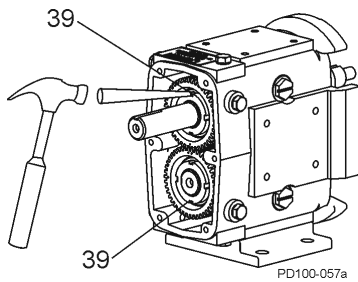

Figure 61 - Bend Lock Tab on Lock washers
7. Bend the locking tab on the lock washers into the locking nut slots, securing the gear locknut into place (Figure 61).